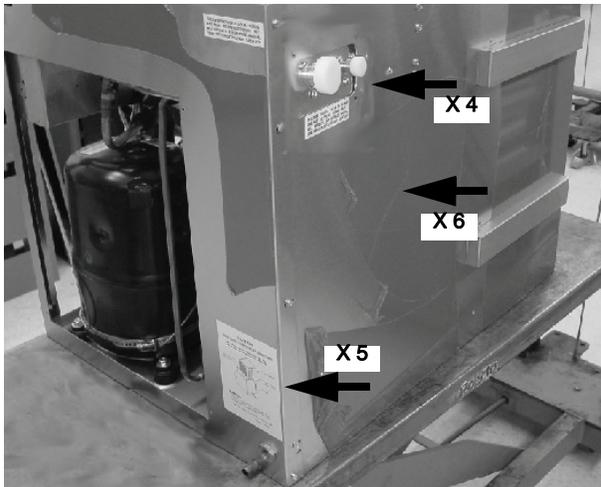

Figure 40.
48. Place the back panel in the unit. Attach the Aeroquip bracket with (4) hex head screws (FIGURE 40). Do NOT attach to the left side panel at this time.
49. Place the right side panel / brace / electrical box assembly (FIGURE 40). Attach the right side panel to the base with the 1/8" stainless POP rivet (FIGURE 41).
Replace the 6 hex head screws attaching the rear panel to the left side panel (FIGURE 40).